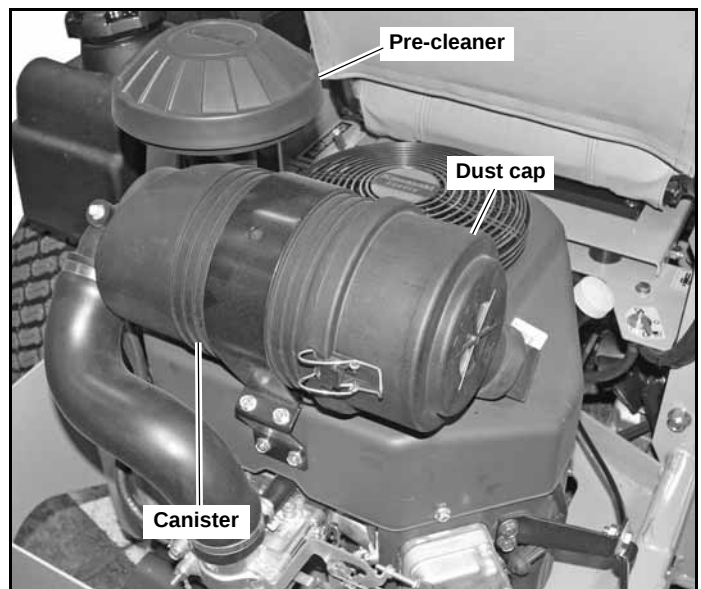

Figure 6-2
A specially designed dry filter is standard equipment on these mowers and supplies clean combustion air to the engine. Figure 6-2
3. Reinstall the dust cap. Make sure it seals all the way around the air cleaner body, then tighten the clamps. Figure 6-2